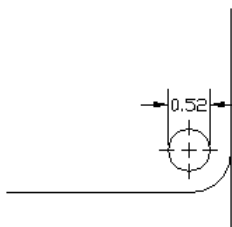
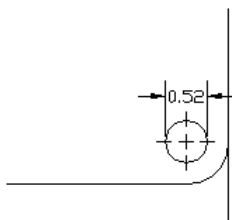

**Figure 15-13:** A narrow dimension using the Either Text or Arrows (Best Fit) option.
**Figure 15-14:** A narrow dimension using the Arrows option.
- ♦ **Either Text or Arrows (Best Fit):** Puts whatever fits inside the extension lines. The arrowheads might fit inside and the text might not, or the other way around. If there isn't enough room for either text or arrows, then they both go outside the extension lines. Figure 15-13 shows a dimension using this option.
- ♦ **Arrows:** If there is not enough room for both the text and the arrows between the extension lines, the arrows go outside and the text goes between them. Figure 15-14 shows a dimension using this option. The results of this option happen to look the same as Figure 15-13, but a different setting produced them.